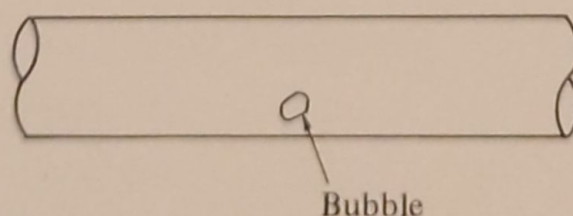

Fig. 21 Appearance of Bubble
- (1) After fusion splicing, if bubbles such as in Fig. 21 are seen on the monitor ③⑧, the steps described in Table 7 should be taken.